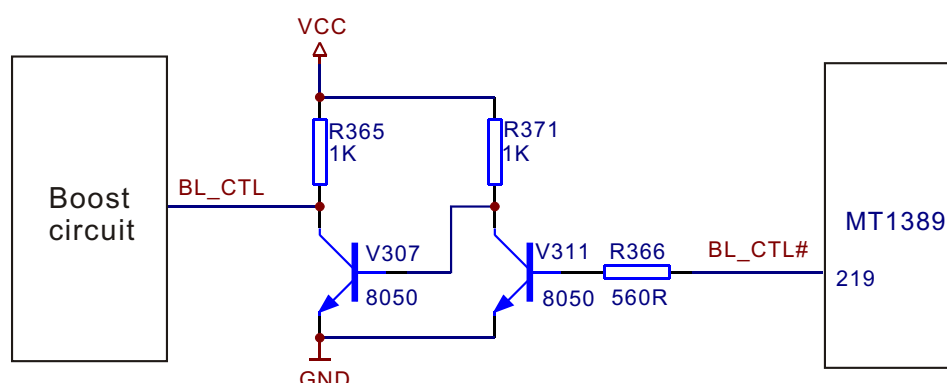

Figure 3.2.7.1 Screen-off detect control circuit diagram
1. Screen-off detect control circuit is shown in the figure 3.2.7.1: